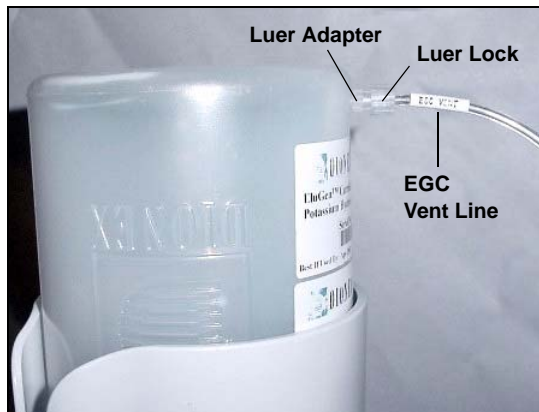

Figure 91. Installing the EluGen Cartridge Vent Line
5. Twist the luer lock and EluGen cartridge vent line into the luer adapter (see Figure 91).